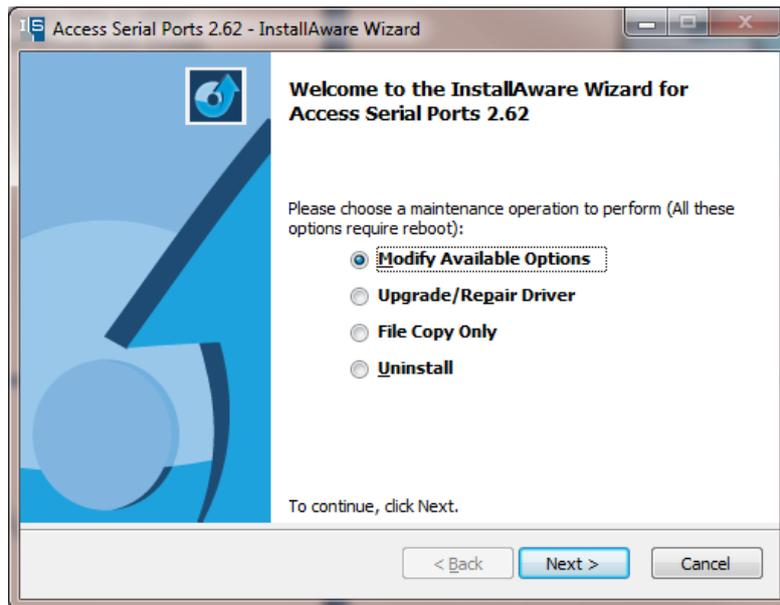

Figure 4
2. The window shown in figure 4 will appear. Select *“Modify Available Options”* and click **Next**.